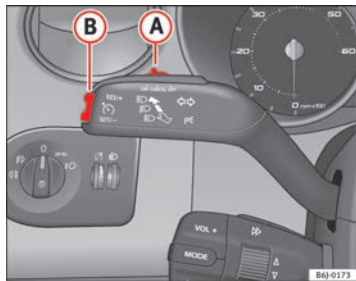

Fig. 112 Turn signal and main beam headlight lever: switch and rocker switch for the cruise control
- Press the lower part **SET-** of the rocker switch ⇒ fig. 112 **B** once briefly when you have reached the speed you wish to set.